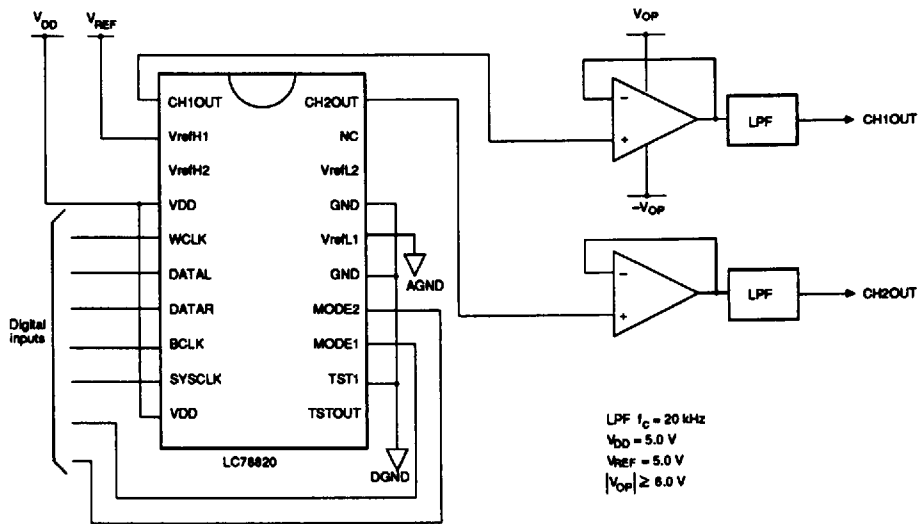

Figure 6. DC-coupled D/A converter
1. Measurements are taken with a sampling frequency of  $F_s = 384$  kHz using the typical application circuit shown in figure 6.